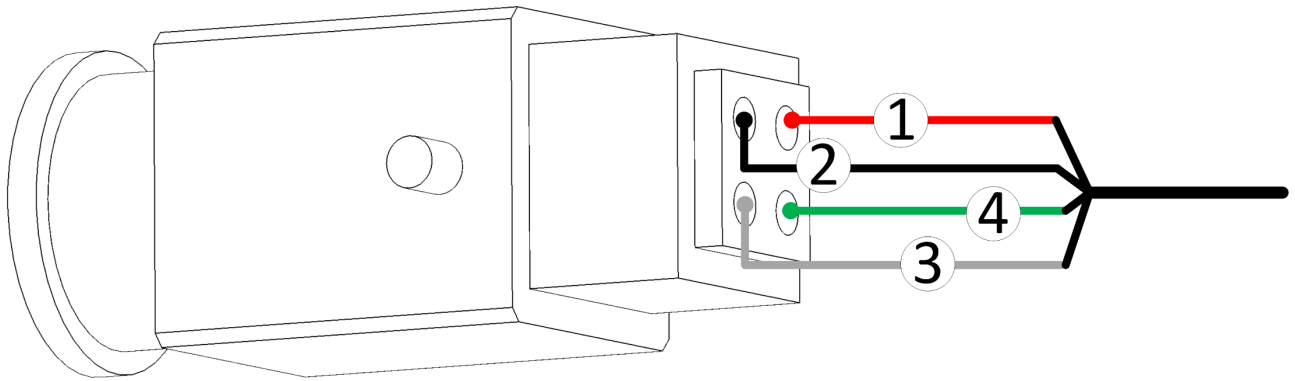

Figure 8: Wired Connector (example cable; actual colors may differ)
5. On the top of the connector are numbers (Figure 7). Each wire must be attached to the corresponding port (Table 1). Connect the four wires to the connector Figure 8.